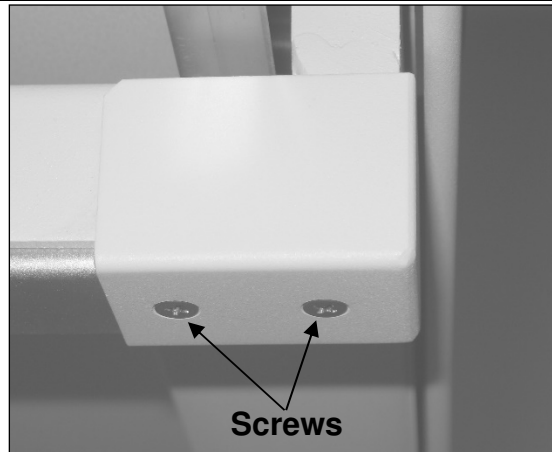

Figure 7: Front Rail Cover
5. If present, remove the front rail cover from the left side of the table as shown in Figure 7 below.